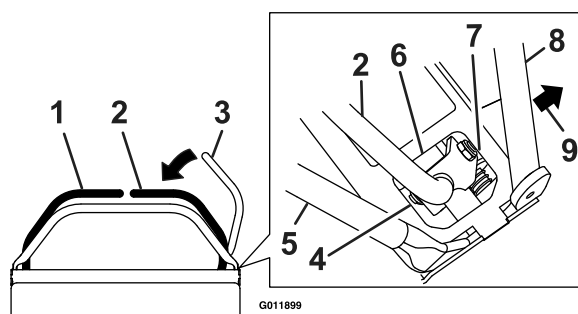

Figure 4
1. Leave the LH motion control lever in neutral and the RH lever in the PTO disengage position (see Figure 4).